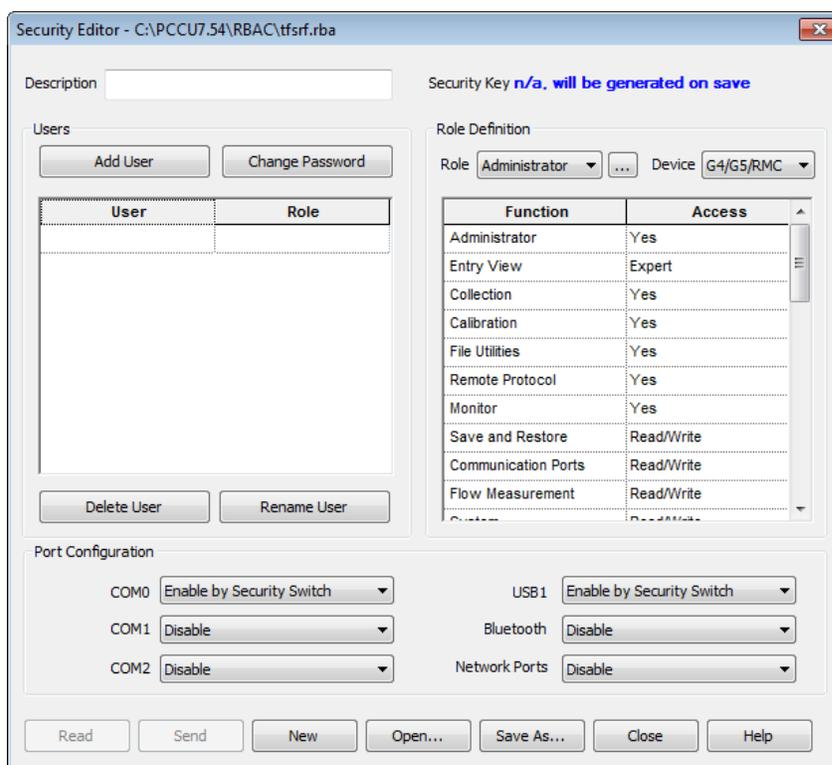

Figure 48: Security Editor screen
1. On the main PCCU32 menu, click **Operate > Security > Role Based Access Control > Role Administration** (Figure 48).
- a. From the Security Editor screen, click **Open...** (Figure 48).